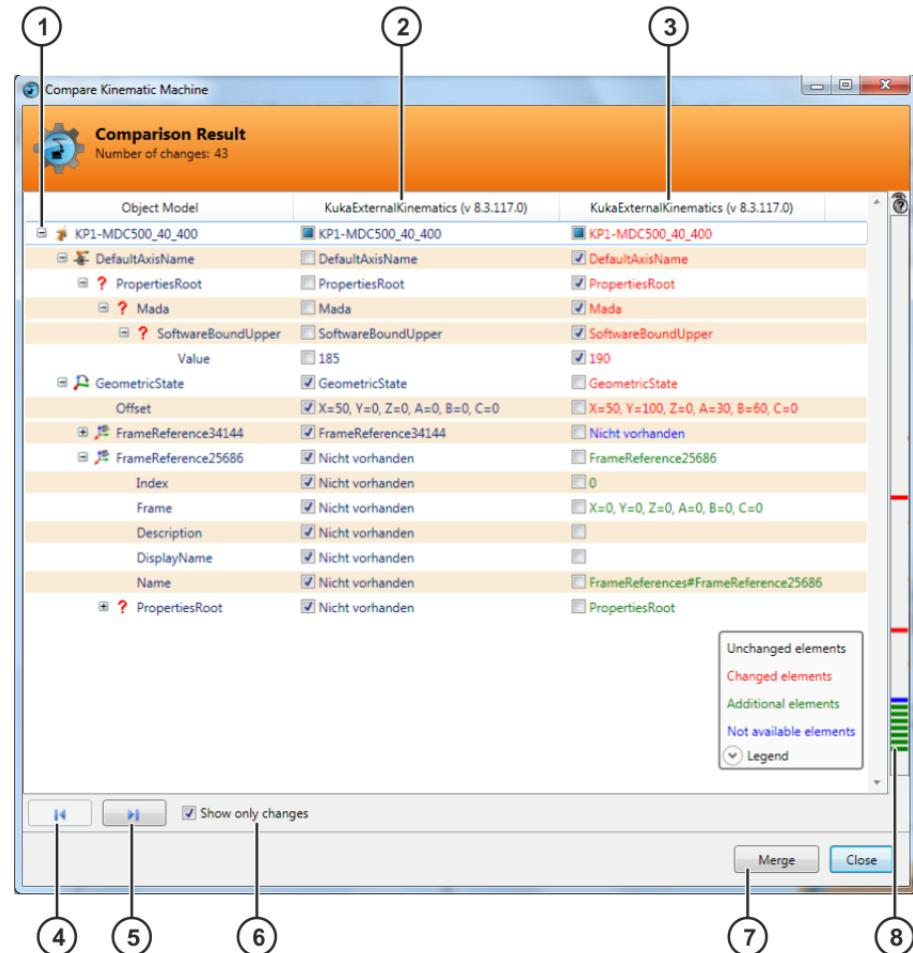

Fig. 6-7: Example: overview of differences
- **From open Catalog**: if the kinematic system to be compared is in an open catalog. The kinematic systems are compared and the differences are displayed in an overview (»> Fig. 6-7). Continue with step 5.
4. Open the tree structure, select the kinematic system and click on **Compare**. The differences between the kinematic systems are displayed in an overview (»> Fig. 6-7).